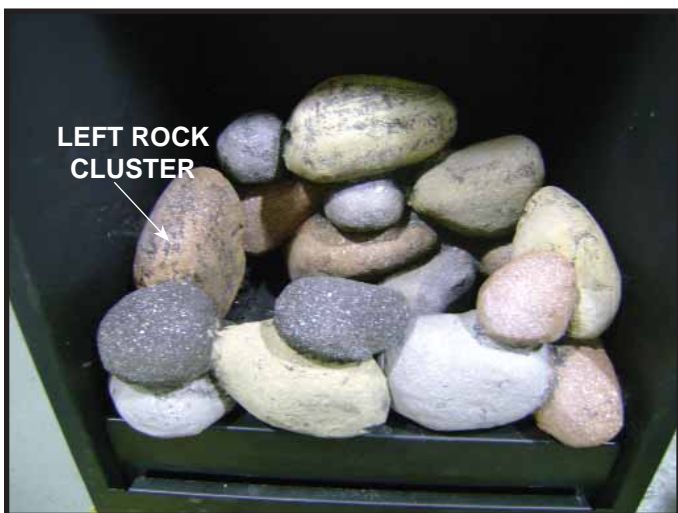
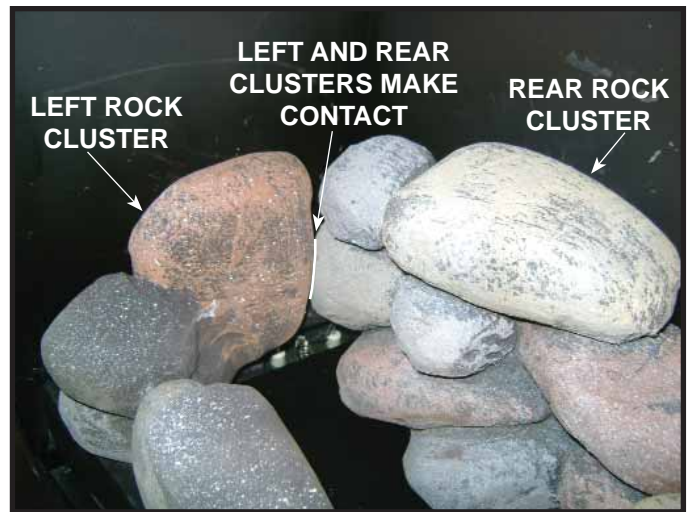

Figure 5. Placing Left Rock Cluster
Figure 6. Left and Rear Rock Clusters Make Contact
- Place left rock cluster in firebox as shown in Figure 5. The left end of the cluster should touch the left wall of the firebox. Push cluster back until the rear and left rock clusters contact each other as shown in Figure 6. Ensure the rock clusters are not covering any burner ports.